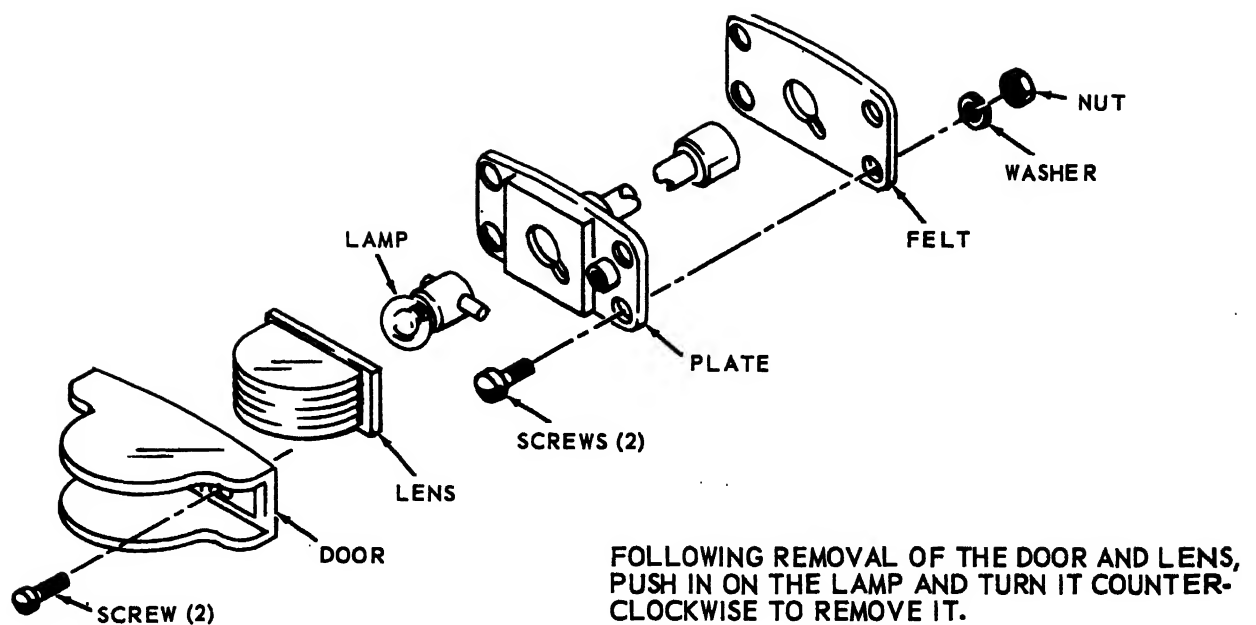

FIGURE 19. SERVICE TO MARKER AND CLEARANCE LAMPS
b. Removal. Refer to Fig. 19 and remove the marker, blackout, and taillight clearance light lamps and reflectors.
d. Installation. Refer to Fig. 19 and install the marker, blackout and taillight clearance light lamps and reflectors.